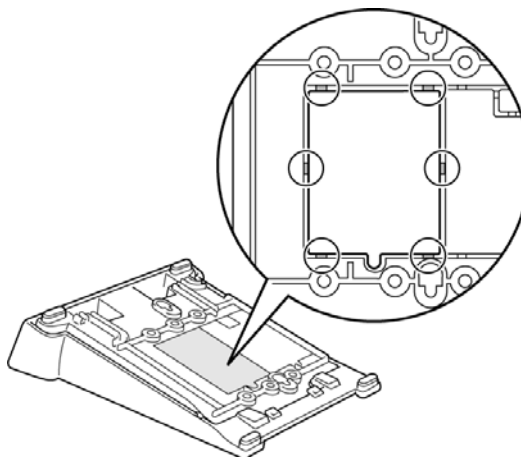

Figure 4-22: Removing the Cutout
2. Remove cutout shown in *Figure 4-22: Removing the Cutout* with nippers.